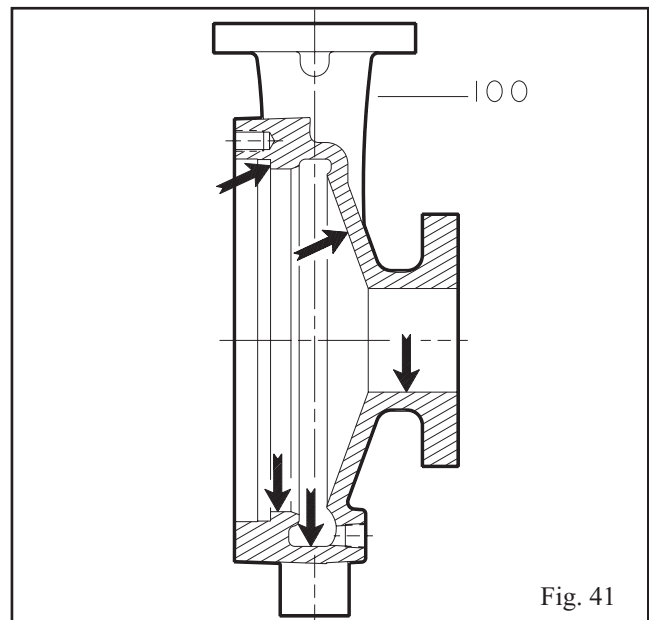

Fig. 41
The casing (100) should be inspected for cracks and excessive wear or pitting. It should be repaired or replaced if it exceeds the following criteria (Fig. 41).